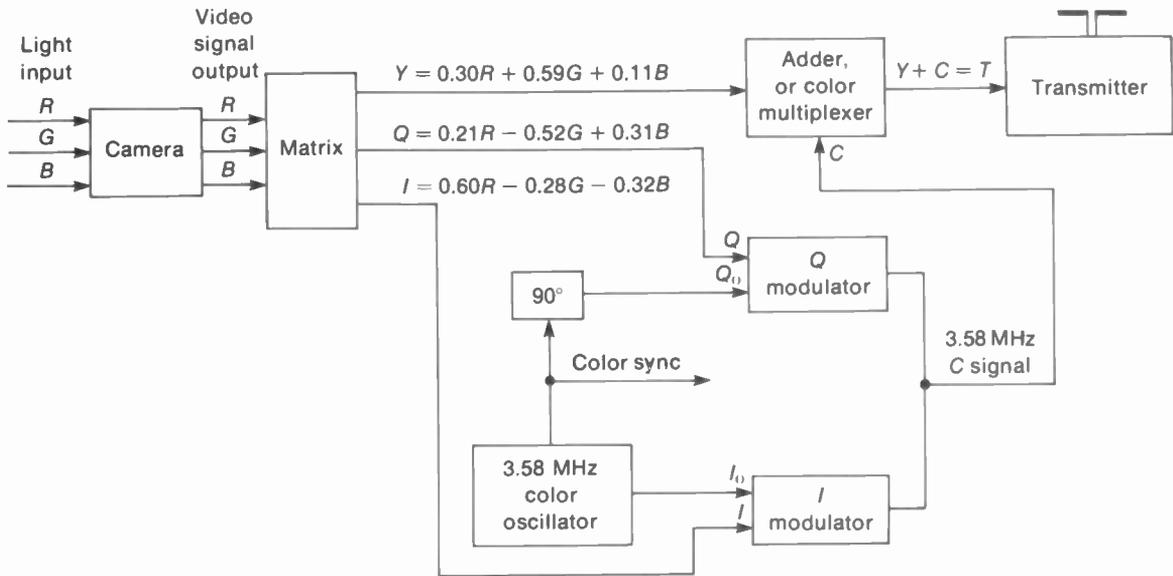

FIGURE 8-8 FUNCTIONS OF THE TRANSMITTER IN ENCODING THE PICTURE INFORMATION FOR COLOR TELEVISION BROADCASTING. SEE TEXT FOR DETAILS.
The red, green, and blue video voltages are then combined in order to encode the primary color voltages as brightness and chrominance signals for transmission to the receiver. This process is illustrated by the block diagram in Fig. 8-8.
**Chrominance modulation.** Referring to Fig. 8-8, the output from the 3.58-MHz color subcarrier oscillator is coupled to the *I* and *Q* modulators. They also have *I* and *Q* video signal input from the matrix. Each circuit produces amplitude modulation of the 3.58-MHz subcarrier. Notice the separate inputs for *I* and *Q* but the common output combines the *I* and *Q* modulation. This combined output is the 3.58-MHz modulated chrominance (*C*) signal.
**Total colorplexed video signal.** The *C* signal with the color information and the *Y* luminance signal are both coupled to the adder section or colorplexer. This stage combines the *Y* signal with the 3.58-MHz *C* signal to form the total colorplexed video signal marked *T* in Fig. 8-8.